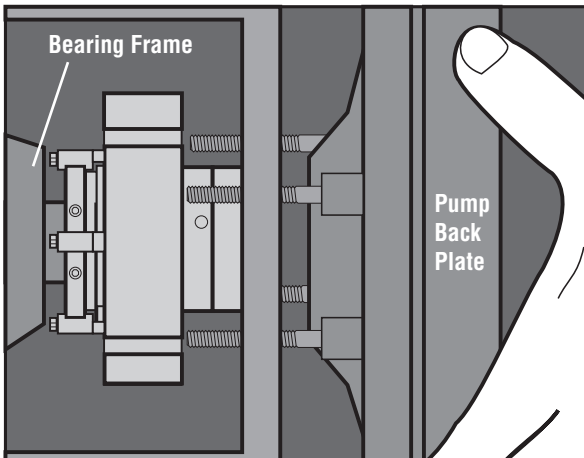

Figure 8
2.4 **Install the pump back plate (seal chamber) and bolt it in place on the bearing frame.** See Figure 8.